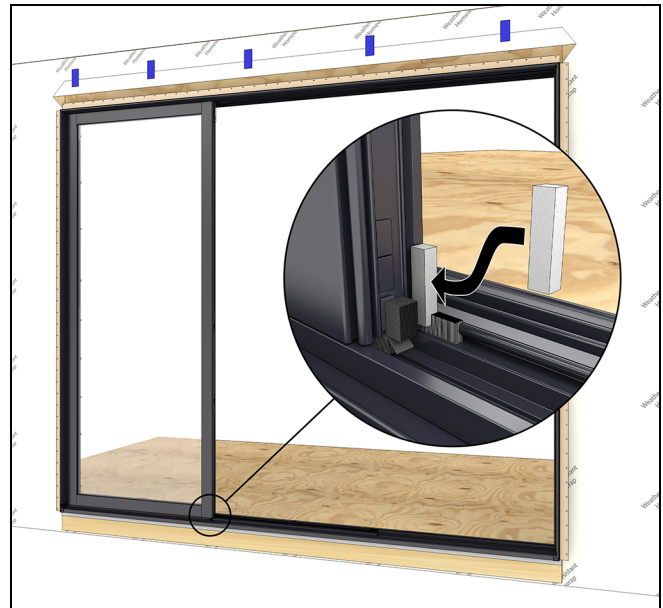

Figure 103
5. Install the foam block against the sill weatherstrip with adhesive side toward the panel. See Figure 103.